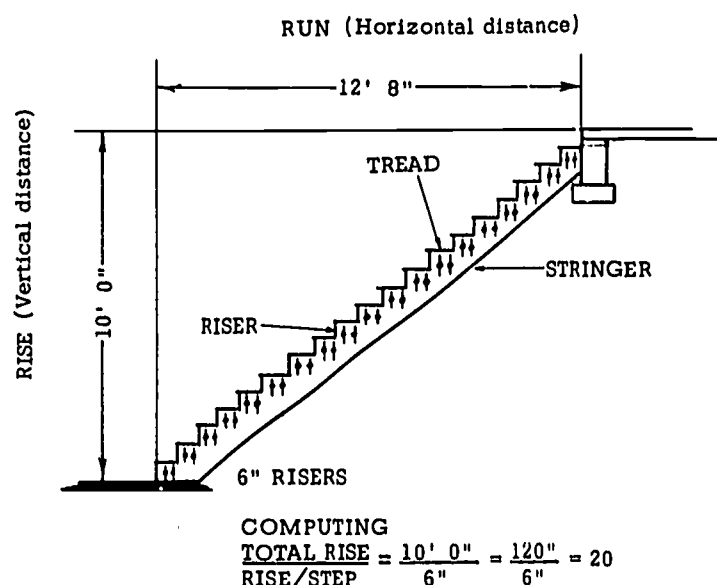

Fig. 35-1. Stairway Problem
1. People who make working drawings usually must solve problems so that details may be determined. For example, there may be a 10' vertical difference between two grade surfaces that are 12'8" apart horizontally. The problem is: How many steps must be provided to reach from the lower to the upper level if each riser has a minimum height of 6"? (Draw the problem on the chalkboard. See Fig. 35-1.)